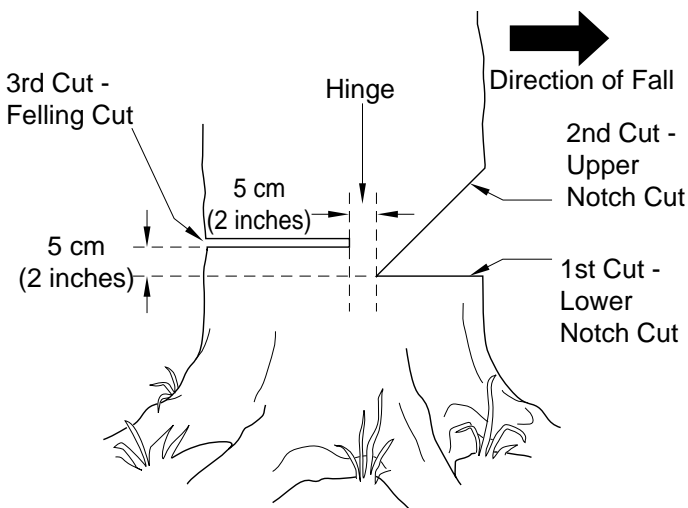

Figure 9 - Felling A Tree
A properly placed felling notch will determine direction tree will fall. Place felling notch on side of tree in direction you want tree to fall (see Figure 9). Follow directions below to create a felling notch.
1. Make lower notch cut as close to ground as possible. Hold saw so guide bar is horizontal. Cut 1/3 the diameter of tree trunk (see Figure 9). **Note:** Always make this horizontal lower notch cut first. If you make this cut second, tree can pinch chain or guide bar.
Example: If lower notch cut is 20 centimeters deep (eight inches), start upper notch cut 20 centimeters (eight inches) above it. Cut downward at 45° angle. The upper notch cut should meet end of lower notch cut (see Figure 9).
1. Make felling cut five centimeters (two inches) higher than lower notch cut and on opposite side of tree (see Figure 9). Keep felling cut parallel to lower notch cut.
Do not cut all the way through tree. Leave about five centimeters (two inches) of tree diameter uncut directly behind felling notch (see Figure 9). This uncut portion acts as a hinge. The hinge helps keep tree from twisting and falling in wrong direction.